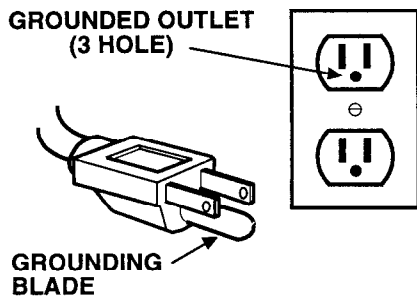

Figure 1
3. Plug the Power Cord into a grounded, (earthed), 120 volt outlet. See **Figure 1**.